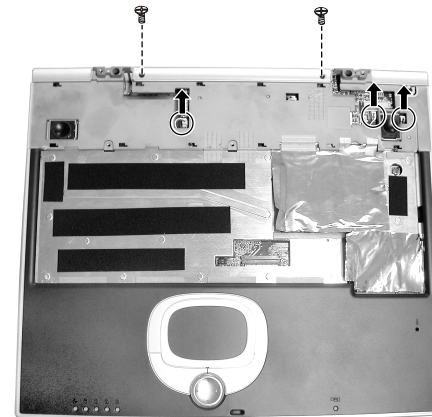

Figure 2-27 Remove two screws
5. Turnover the notebook. Remove two screws. And disconnect three wires. (Figure 2-27)